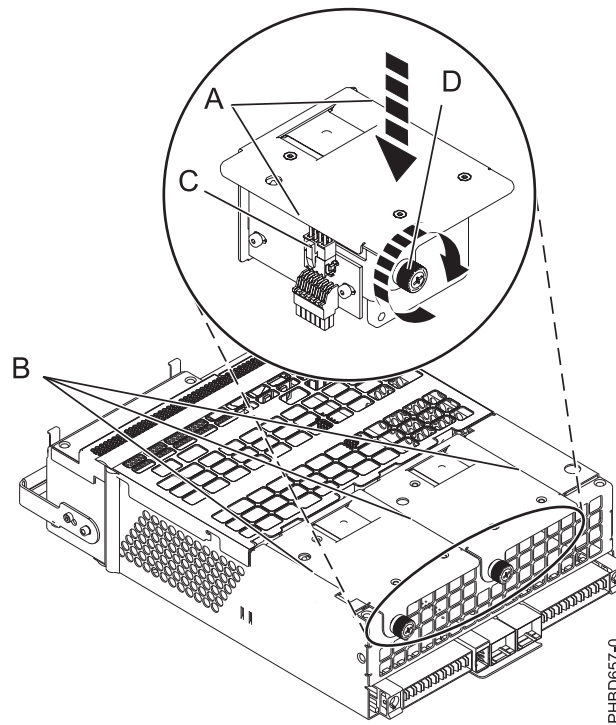

Figure 62. Replacing a fan
- b. Press the fan (A) into its connector in the assembly as shown in Figure 62.
- c. Tighten the thumbscrew (D) as shown in Figure 62.